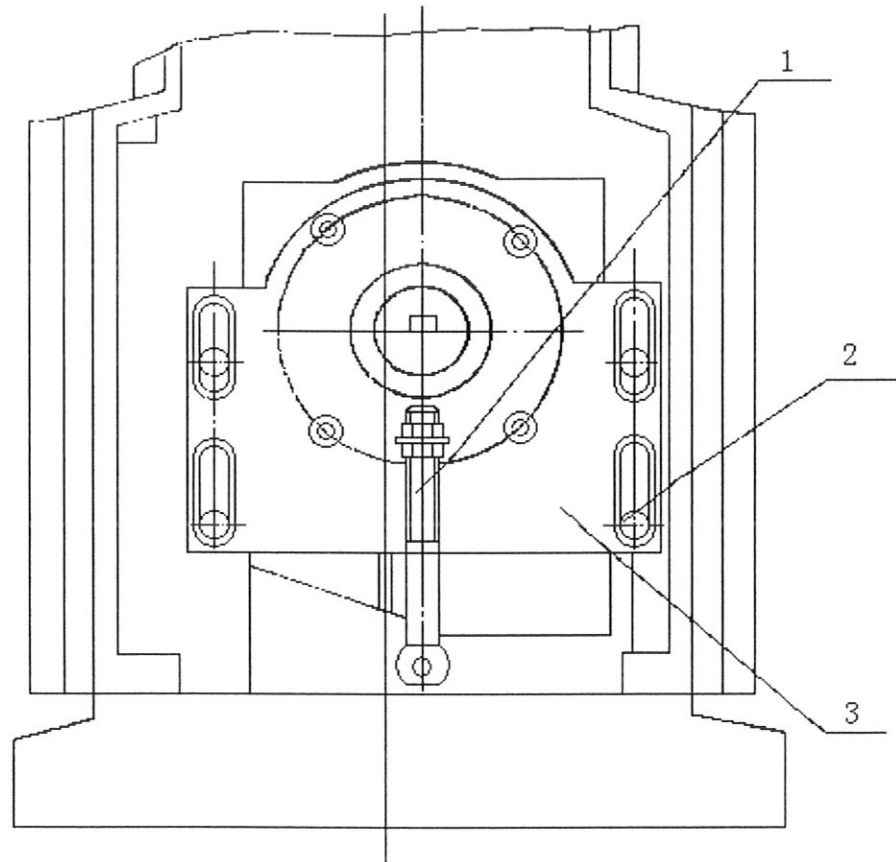

Fig.23 Adjustment of T-belt of main motor
7.1 Belt adjustment of the machine's main movement.(see Fig.23)